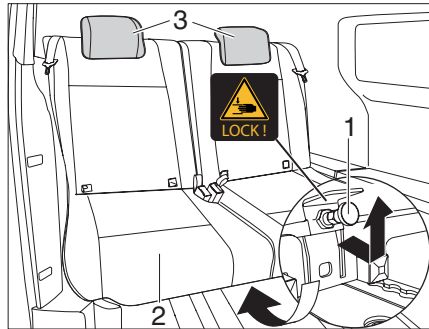
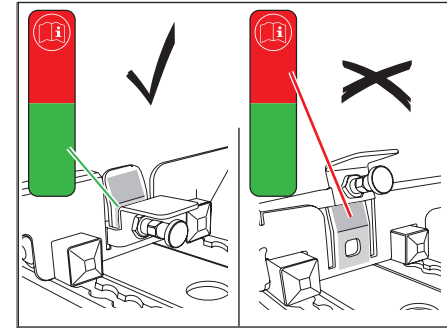
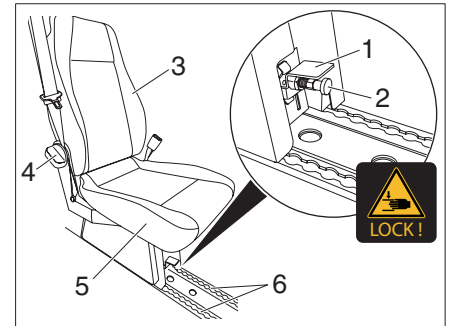

Fig. 16 Bench lock
Fig. 17 Position of the locks
Fig. 23 Installing the seat
- ▶ Push the locking pins (Fig. 16,1) under the bench (Fig. 16,2) slightly downwards and pull. The locking mechanism releases itself.
- ▶ Push the bench (Fig. 16,2) forward and lock the locking pins (Fig. 16,1) again.
- ▶ Press the button and pull the head rests (Fig. 16,3) upwards.
- ▶ Lift the seat (Fig. 23,5) into the rail (Fig. 23,6).
The locking lever (Fig. 23,1) must be in the upper position (for markings and identification see Fig. 16 and Fig. 17).
- ▶ Check that the seat (Fig. 23,5) is properly engaged.
- ▶ Pull the locking pins (Fig. 23,2) and press the locking lever (Fig. 23,1) down.
- ▶ Turn the adjustment knob (Fig. 23,4). The backrest (Fig. 23,3) folds forward.
- ▶ Pull the locking lever (Fig. 23,1) upwards.
- ▶ Lift the seat (Fig. 23,5) out of the rail and set it down briefly if necessary.
- ▶ Hold the seat by the seat cushion and backrest (Fig. 23,3) and carry it out of the vehicle.